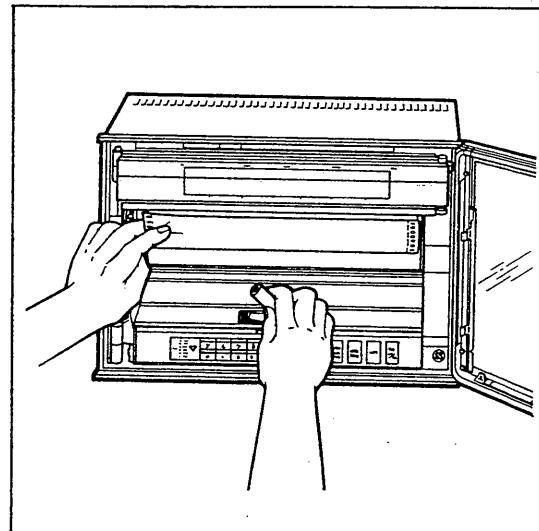

Figure 5-11.
- (4) Remove the old batteries from the holder (see Figure 5-11).